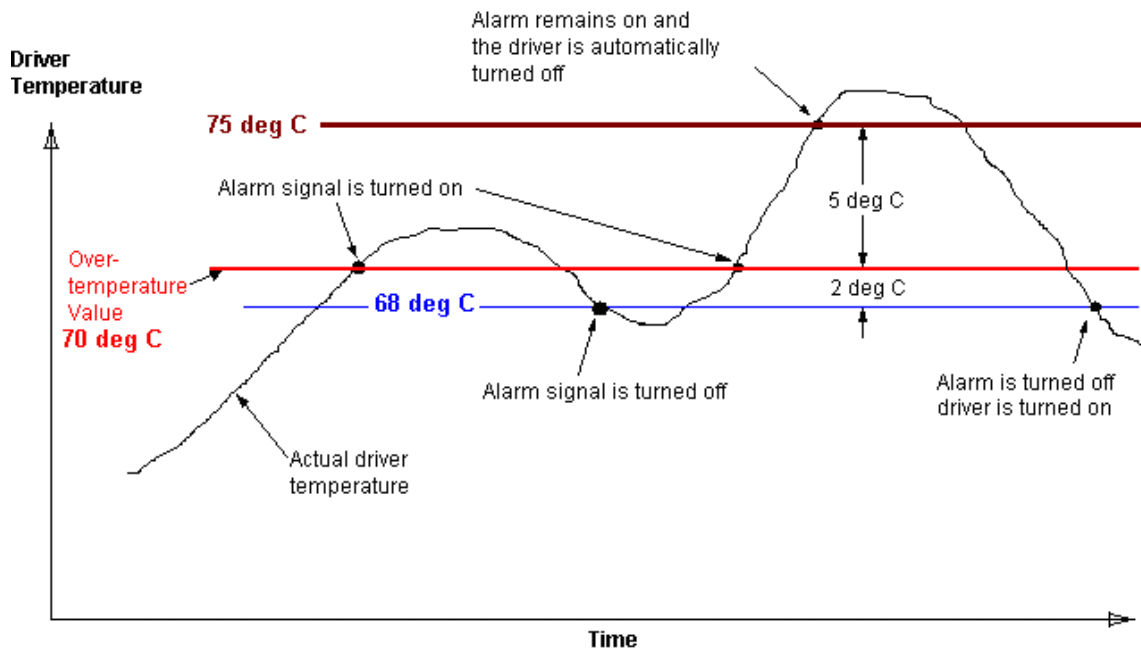

Figure 7.0
For details on wiring the alarm output, see Figure 7.0.
- 8) Over Temperature Shutdown: Determines whether or not the DMX-K-DRV-34 disables when the temperature rises above a specified threshold. See Figure 7.0 for details.